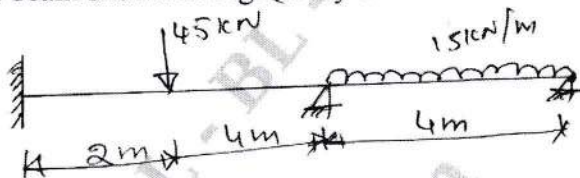

Fig.Q.9
- 9 Analyze the continuous beam shown in Fig.Q.9 by direct stiffness method. Draw BMD.